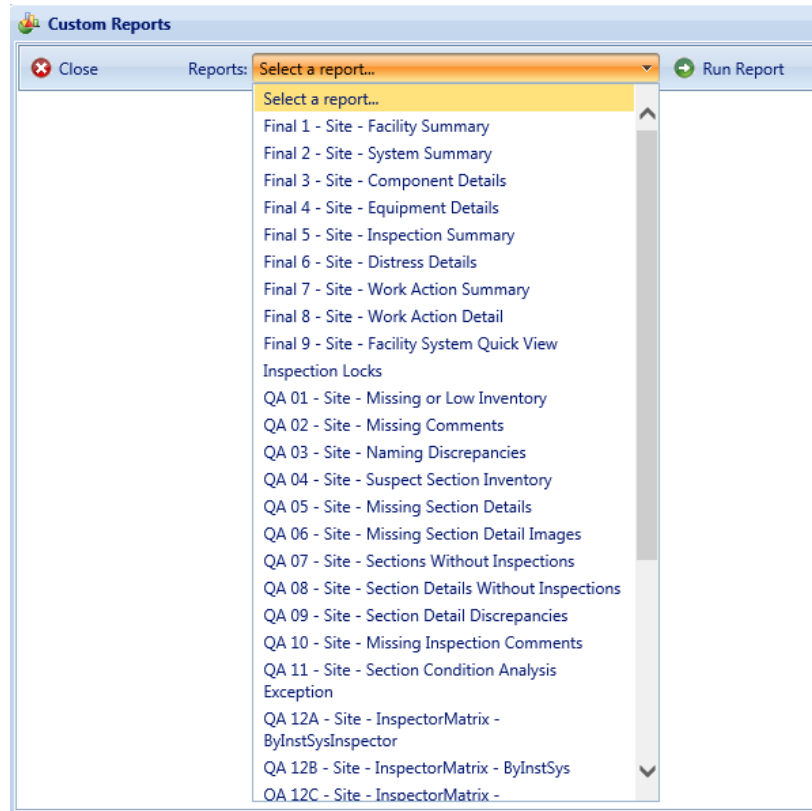

Figure 2: List of Custom Reports. This example shows Custom Reports available at the Site level.
2. Figure 2: List of Custom Reports
window (see Figure 2)—will display a list of Site-level reports. This drop-down menu may offer different choices if a user has selected Custom Reports from a different hierarchical level.